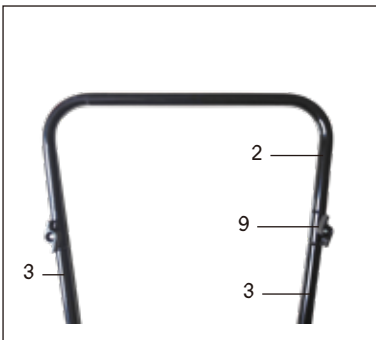
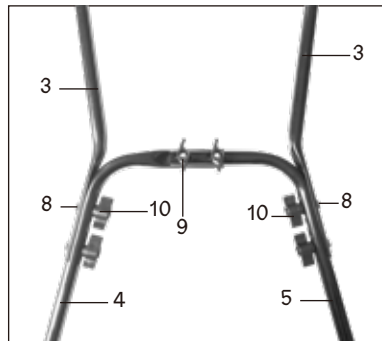

Fig. 2
Fig. 3
Screw the push bar top section (2) (Fig. 2) to the two push bar extensions (3) (Fig. 2). Use the two screws M6x25 (9) (Fig. 2) and two hexagonal nuts M6 (10) (Fig. 3) for this purpose.
Screw push bar bottom section (4) (Fig. 3), push bar bottom section (5) (Fig. 3) and the two push bar extensions (3) (Fig. 3) together. Use four screws size M6 x 30 (8) (Fig. 3), two screws size M6 x 25 (9) (Fig. 3) and hexagonal nuts size M6 (10) (Fig. 3).